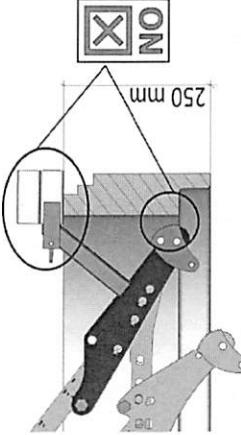

Fig. 1
- The gripping of manhole rings (total height 250 mm/10") WITHOUT above named accessory (4400.0079) is prohibited (→ see Fig. 1).